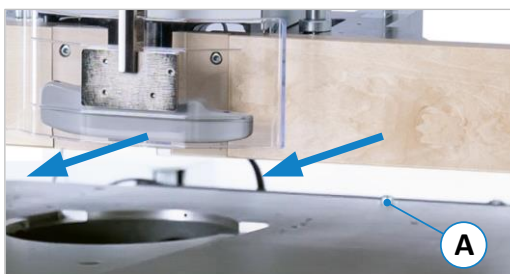
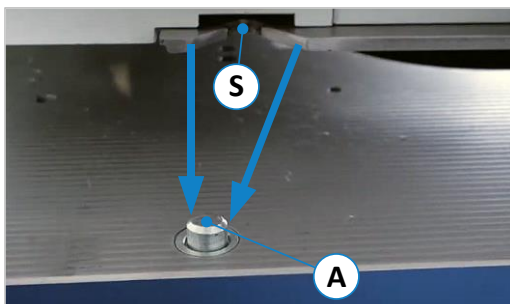

Figure 22: Move centrally over milling spindle
Figure 23: Align dovetail receptacle to locking pin
- Move the fence over the machine table with the help of a second person, with a suitable hoist or with the optional swivel-away device so that it is approximately centred over the milling spindle (see ⇒ Figure 22).
- Now stand on the back of the machine and pull the fence with the dovetail receptacle (S) as close as possible against the locking pin (A).
- Now set the fence down and move the rest by hand so that the locking bolt (A) engages securely in the receptacle (S) as shown in ⇒ Figure 23.